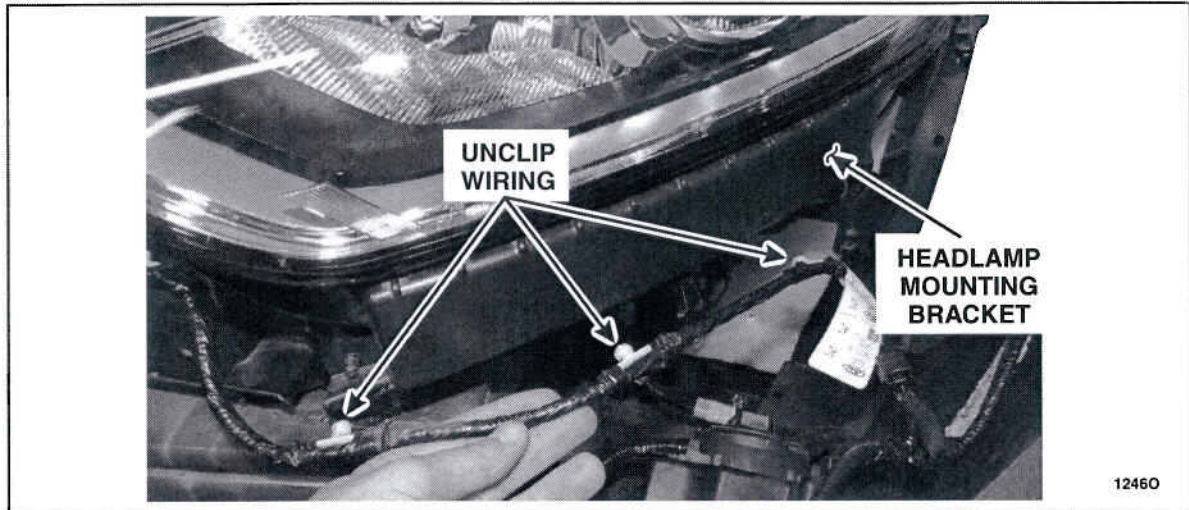

FIGURE 12
13. Release the three clips holding the wiring to the LH headlamp mounting bracket. See Figure 12.
- c. Attach the three wiring retaining clips to the LH headlamp mounting bracket. See Figure 12.